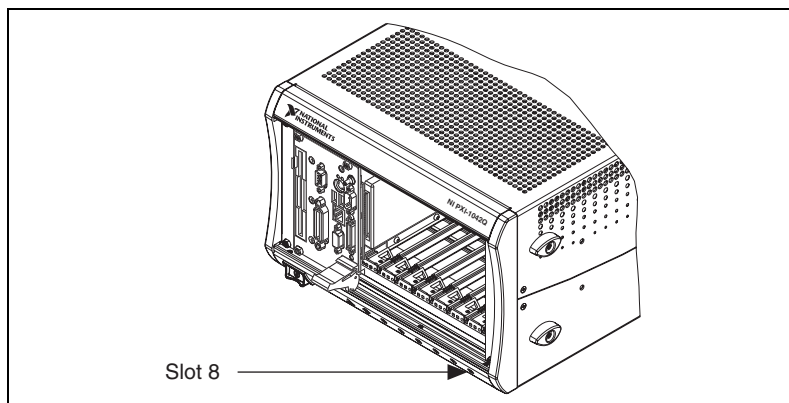
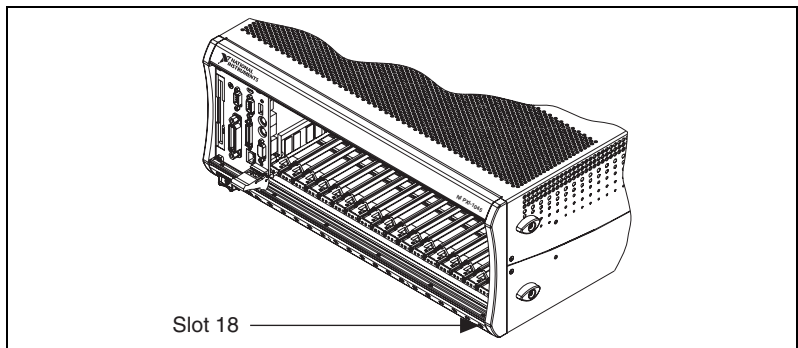

Figure 1. Location of NI PXI-1042Q Slot for NI PXI-8250 Support
Figure 2. Location of NI PXI-1045 Slot for NI PXI-8250 Support
2. Locate the rightmost (last numbered) slot of the NI PXI-1042/1042Q or NI PXI-1045 chassis and ensure it is unused. If occupied, relocate the module or remove the filler panel. Refer to Figure 1 for the location of this slot on the NI PXI-1042/1042Q chassis, and Figure 2 for the location of this slot on the NI PXI-1045 chassis.
4. Insert the NI PXI-8250 module into the rightmost slot of a NI PXI-1042/1042Q or NI PXI-1045. The correct position is slot 8 for the NI PXI-1042/1042Q and slot 18 for the NI PXI-1045, as shown in Figure 1 and Figure 2, respectively. Use the injector/ejector handle to fully inject the device into place.